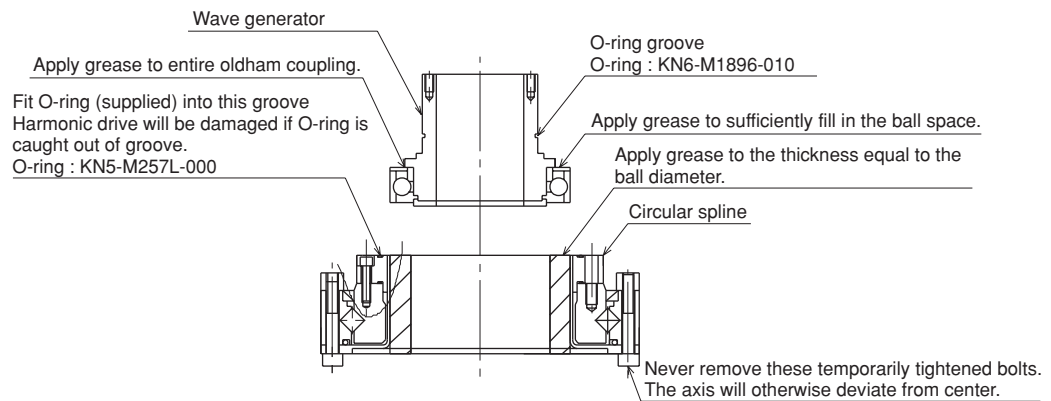

Fig. 5-23
- 15) Apply harmonic grease to the new wave generator. See Fig. 5-23 for applying grease properly.
See Fig. 5-23 for applying grease properly.
- 18) Fit an O-ring (supplied with the harmonic drive) coated with harmonic grease into the O-ring groove on the new harmonic drive. (See Fig. 5-23.)